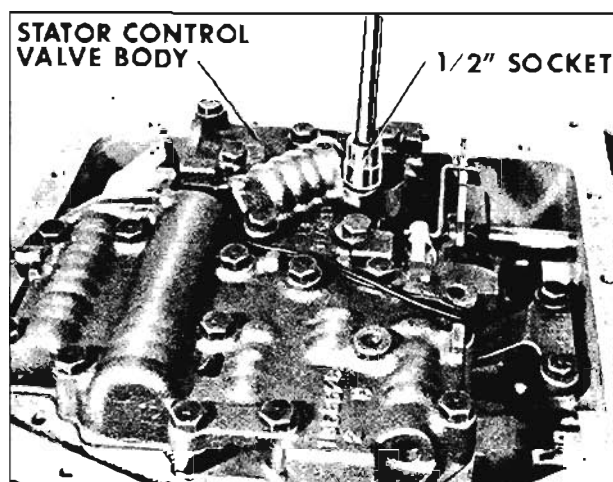

Fig. 6-265 Removing Stator Control Valve Body
6. Remove seven bolts retaining stator control valve body to transmission case using a 1/2" socket. Remove stator control valve body. (Fig. 6-265)